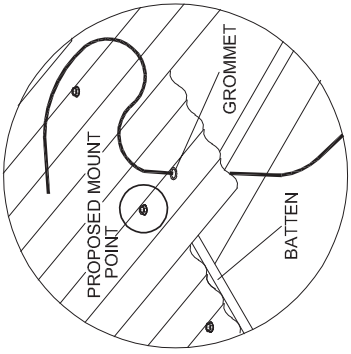

figure 5
STEP 2: To provide an entry for the coaxial cable, drill a Ø110 hole through the roof sheeting next to the batten which is to have the Mast Clevis bracket screwed to it. Moisten and insert the grommet supplied through the hole and feed the end of the coaxial cable through it. Push sufficient cable through to make connection with the LNB. Run cable as necessary inside the house (see fig 5).